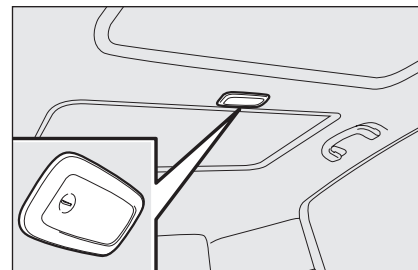

fig. 57
**Versions with sunroof fig. 57**